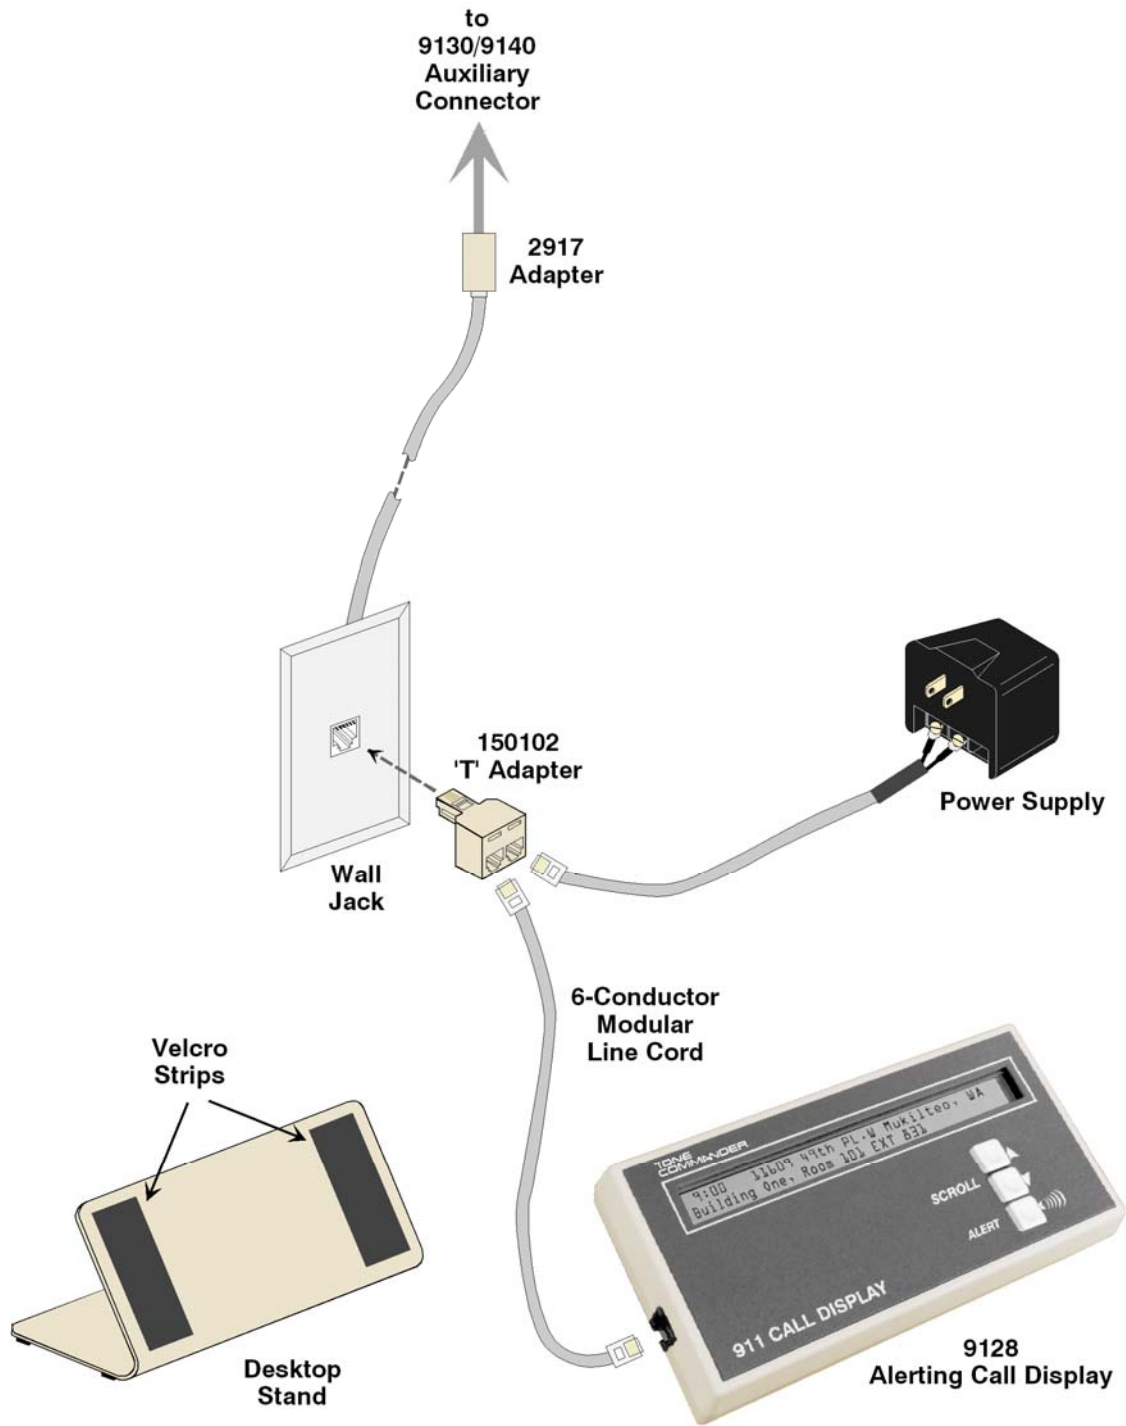

Figure 1 – Direct Connection to 9130/9140
1. Remove the backing sheets from the cloth Velcro strips, and apply the strips to the desktop stand as shown in Figure 1.
Refer to Figure 1.